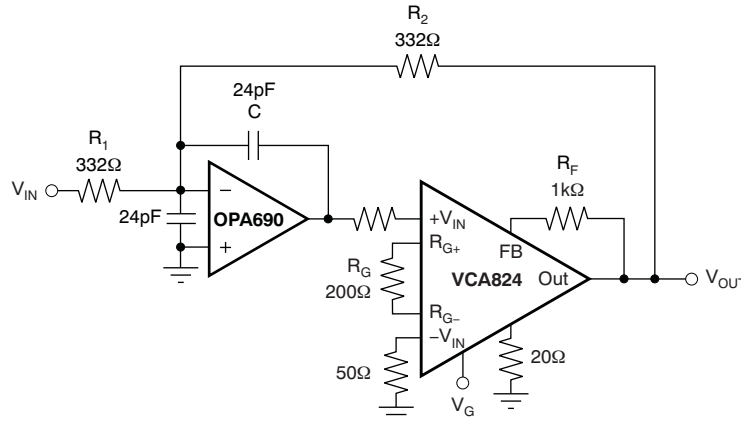

Figure 74. Voltage-Control Low-Pass Filter
In the circuit of Figure 74, the VCA824 serves as the variable-gain element of a voltage-controlled low-pass filter. This section discusses how this implementation expands the circuit voltage swing capability over that normally achieved with the equivalent multiplier implementation. The circuit control voltage, V_G, is calculated as according to the simplified relationship described in Equation 6.
Because the VCA824 is most linear in the midrange, the median of the adjustable pole should be set at $V_G = 0\text{V}$ (see Figure 13, Figure 33, Figure 54, and Equation 8). Selecting $R_1 = R_2 = 332\Omega$, and targeting a median frequency of 10MHz, the capacitance (C) is 24pF. Because the OPA690 was selected for the circuit of Figure 74, and in order to limit peaking in the OPA690 frequency response, a capacitor equal to C was added on the inverting mode to ground. This architecture has the effect of setting the high-frequency noise gain of the OPA690 to 2V/V, ensuring stability and providing flat frequency response.